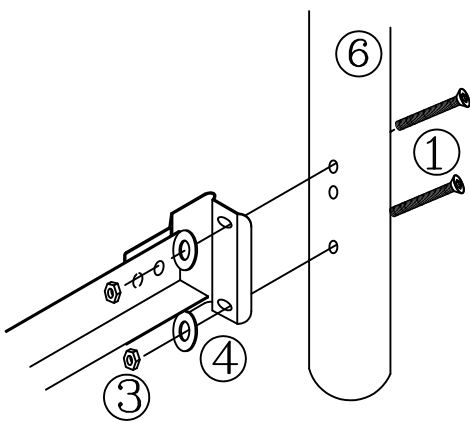
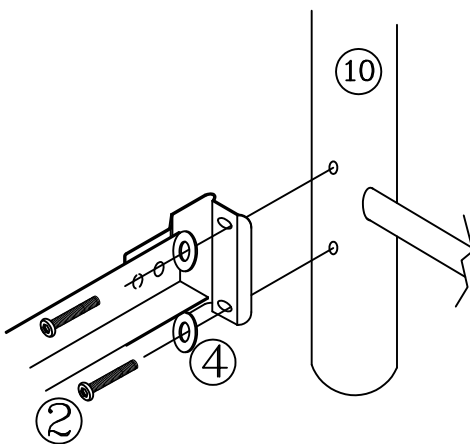

FIGURE 2
FIGURE 3
- Place 2 screws (1) through holes located in leg (6). (See Figure 2)
- Place a flat washer (4) first and then a nut (3) on each screw. Hand-tighten, DO NOT TIGHTEN screws all the way.
- Discard Leg extension (6) for footboard attachment to frame.
- Position footboard panel and align holes in the panel (10) post with holes in the frame bracket. See figure 3
- Place flat washer (4) on each screw (2). Insert through bracket and into post. Hand-tighten, DO NOT TIGHTEN screws all the way.